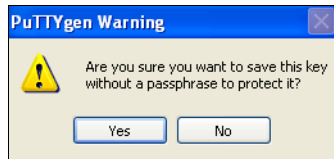

Figure A-5 Confirm the security warning
6. You receive a warning message, as shown in Figure A-5. Click **Yes** to save the private key without a passphrase.